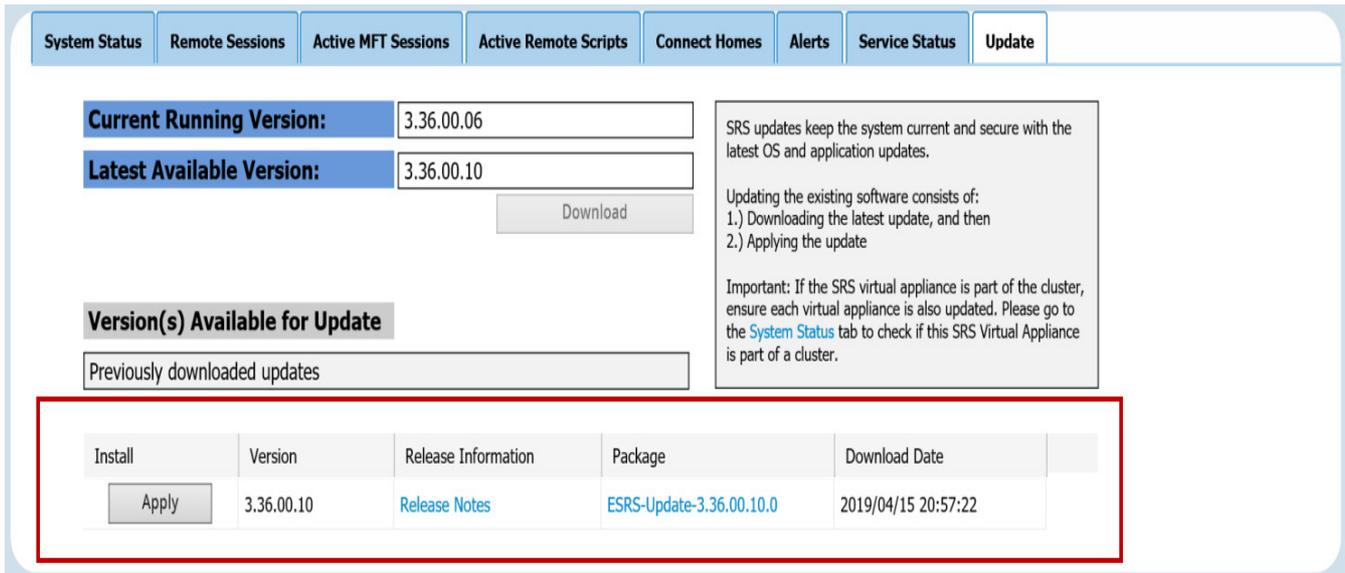

Figure 86 Clicking *Apply*
- Click **Apply** to run and apply the patch for the upgrade, as shown in Figure 86 on page 76. Status pop-up window appears.